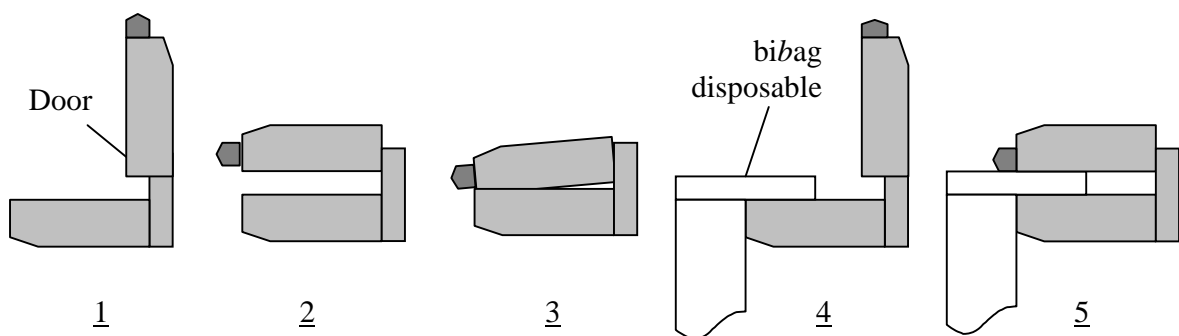

Figure 3
The bibag connector holds the bag with dry bicarbonate during dialysis. The bibag connector incorporates a three position door (see Figure 3). The door may be placed in the position open, operating, or bypass. In the open position (1) and (4), a bibag disposable may be installed or removed from the connector. The operating position (5) is used when a bibag disposable is installed for dialysis. The bypass position (3) is the completely closed position (not possible if a bag is hanging from the connector). The door must be in the closed position (3) for rinse, cleaning, and jug dialysis mode. Position (2) should not be used.